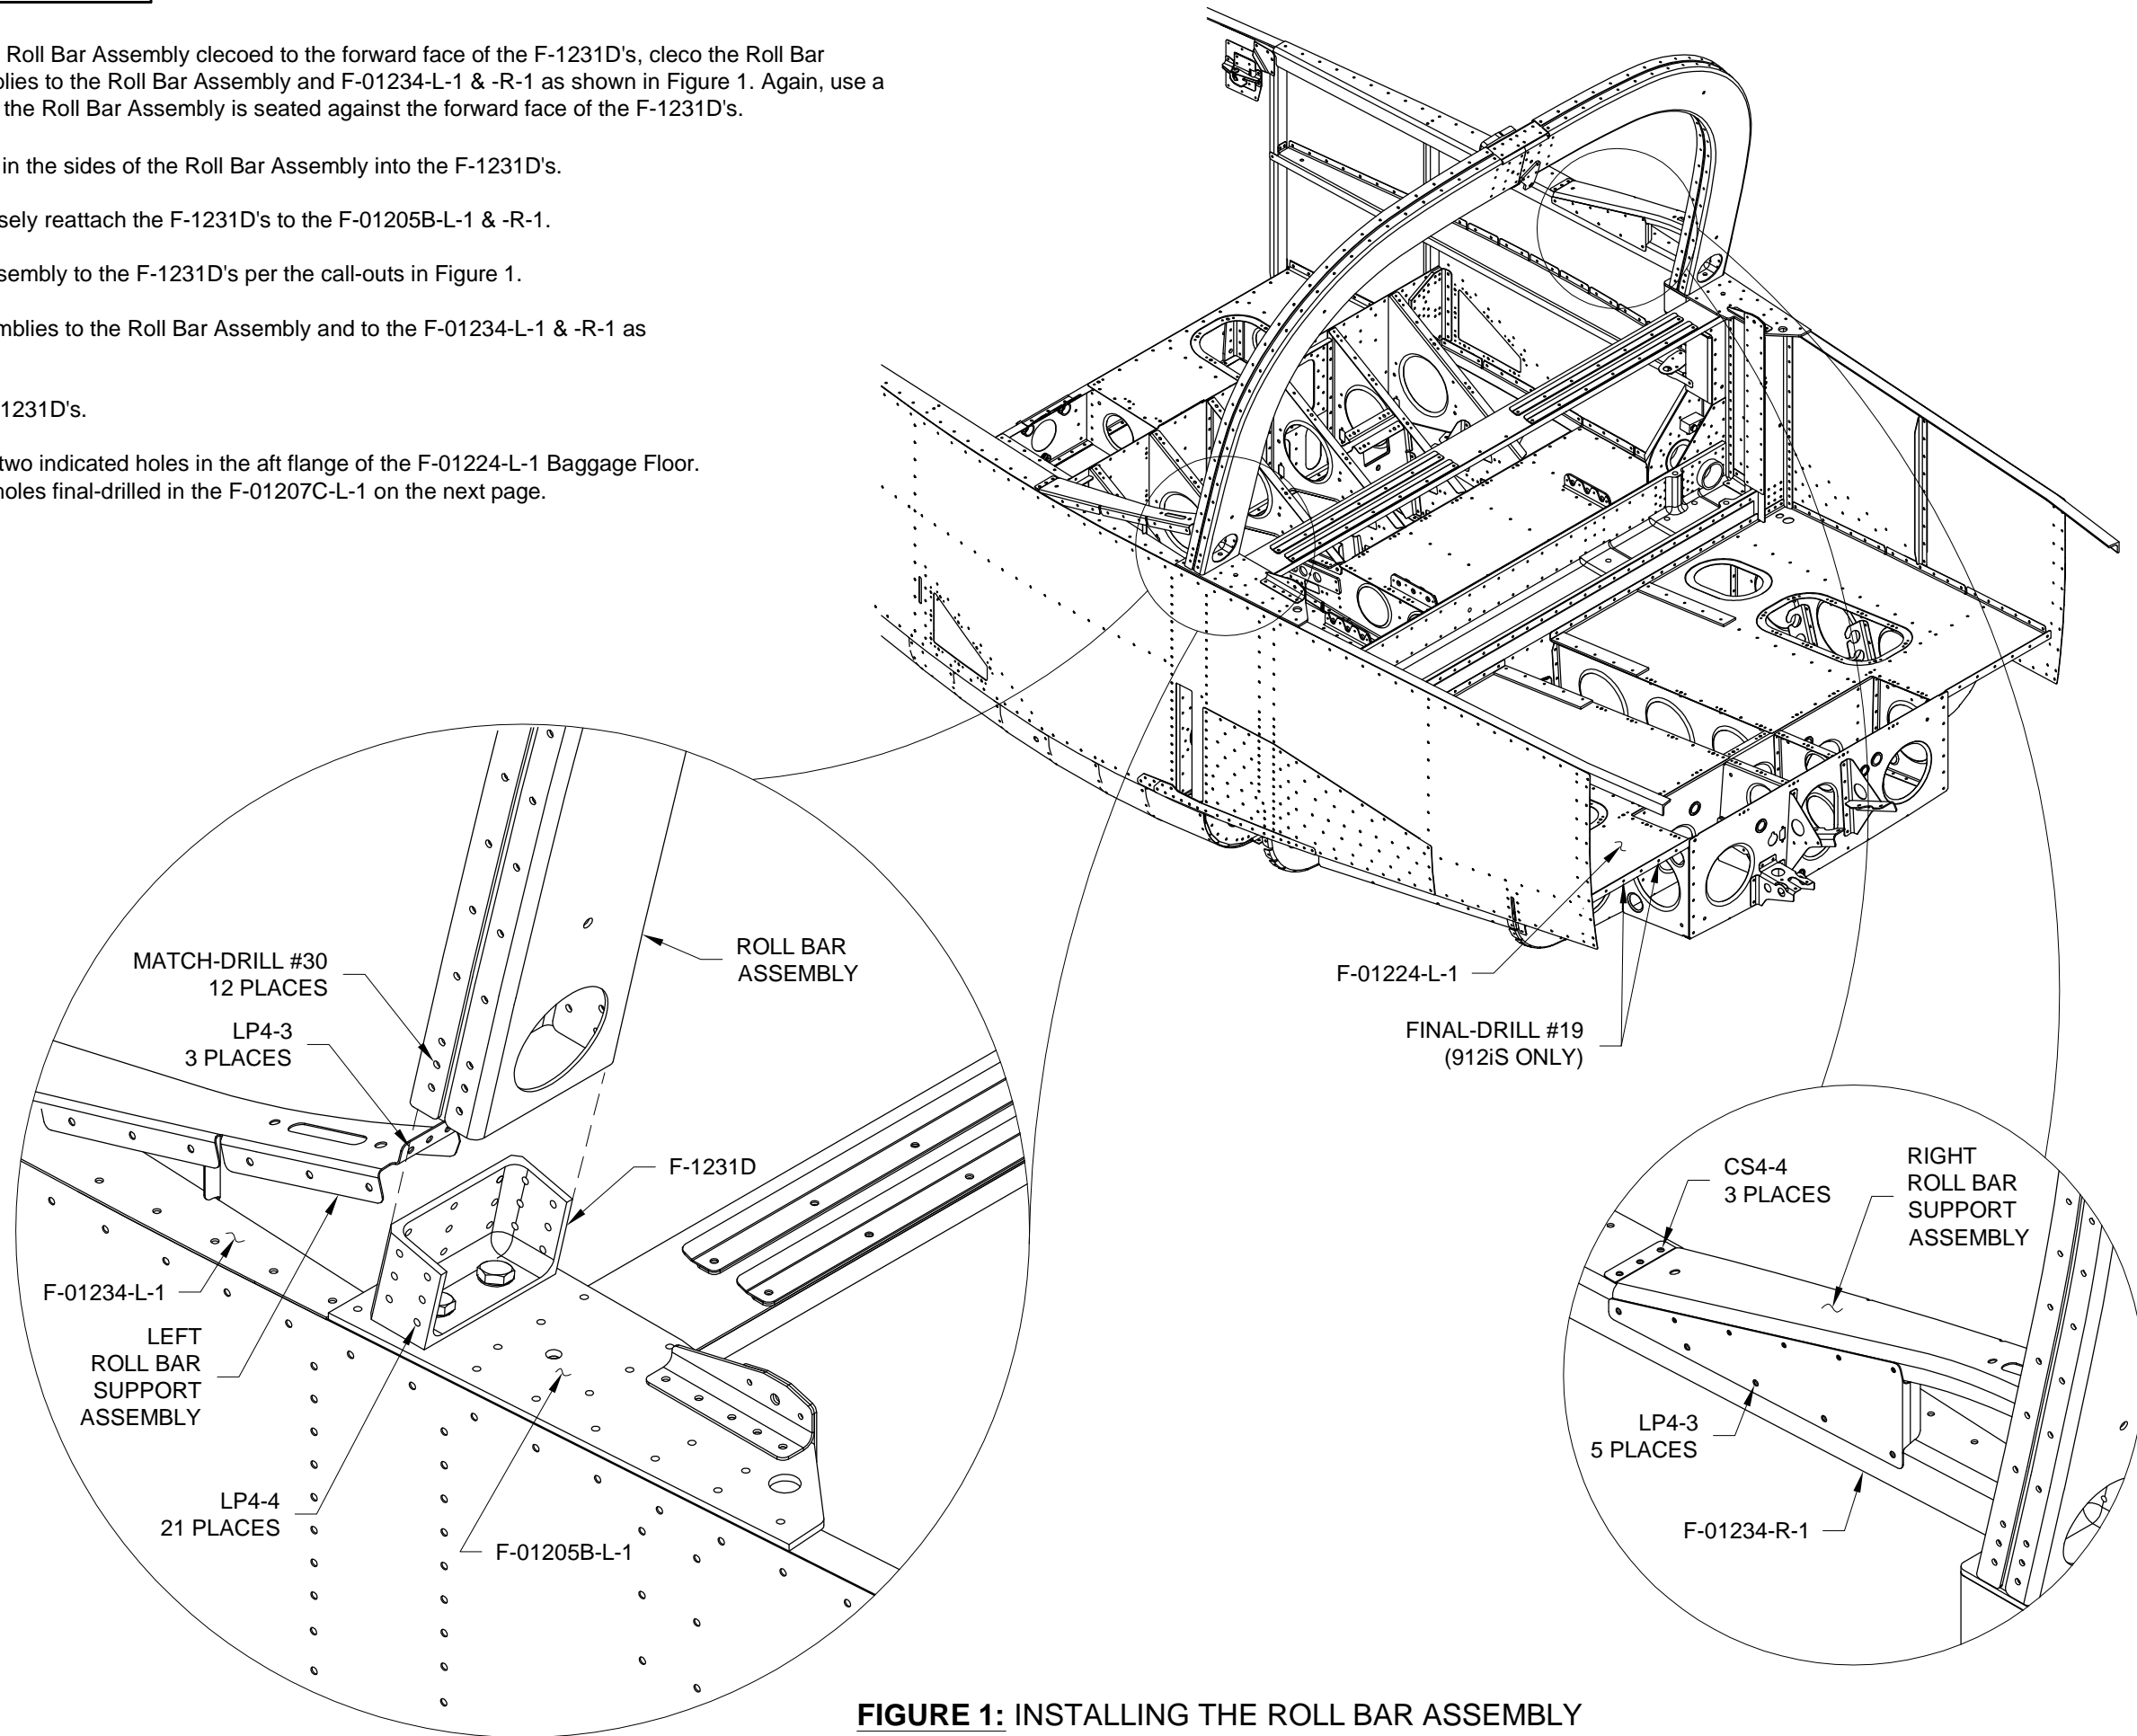

FIGURE 1: INSTALLING THE ROLL BAR ASSEMBLY
Step 5: Rivet the Roll Bar Support Assemblies to the Roll Bar Assembly and to the F-01234-L-1 & -R-1 as shown in Figure 1.
Step 1: Mark a line on the forward face of the F-1284-L & -R as dimensioned in the Detail View of Figure 1.
Step 2: Cleco the F-01207C-L-1 & -R-1 to the Tailcone Assembly as shown in Figure 1.